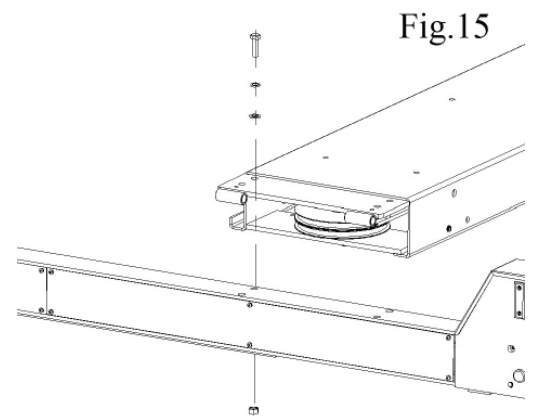

Fig.15
- Line up the runways with the bolt holes in the transverse beams and temporarily bolt the screw M16X50 with the nut M16, washer D.16 and locking washer D.16 in position as shown in the figure 15.